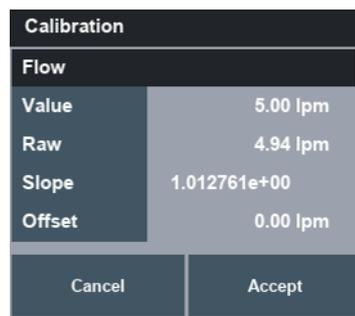

Figure 167 – Flow Calibration Slope and Offset
- When you press enter, the dialog box will calculate a new calibration slope. Select accept to apply the calibration or cancel to abort. See Figure 167.